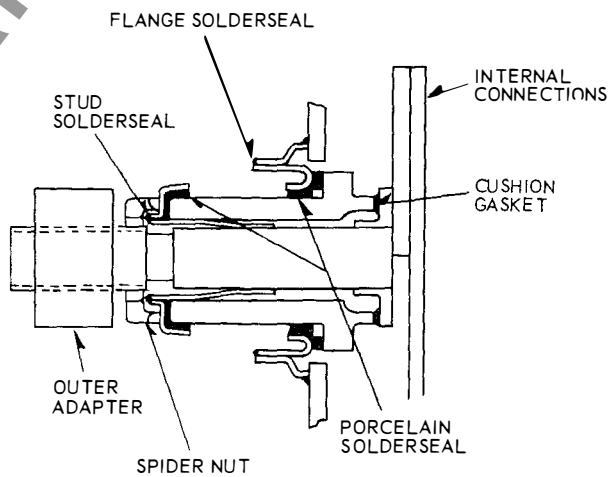

FIG. 4 - 1.2 KV BUSHING
5. Solder parts together by torch method (d), playing flame on boss or cover, and NEVER on the porcelain or solderseal. As little time as possible should be consumed in soldering so as to reduce the hazard of "burning off" the solderseal. Figure 4 bushing will require two solder joints. Make the flange solderseal first. When it has cooled, close the stud solderseal.